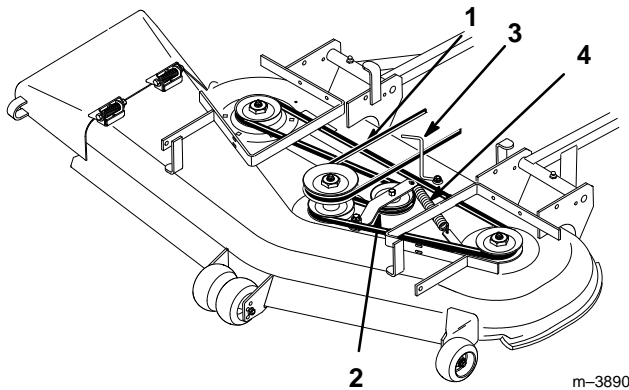

Figure 47
3. Remove idler spring from idler arm, then remove the worn deck belt (Fig. 47).
4. Install the new deck belt around the spindle pulleys, belt guide, the idler pulley, and in the lower groove of the center spindle pulley (Fig. 47).